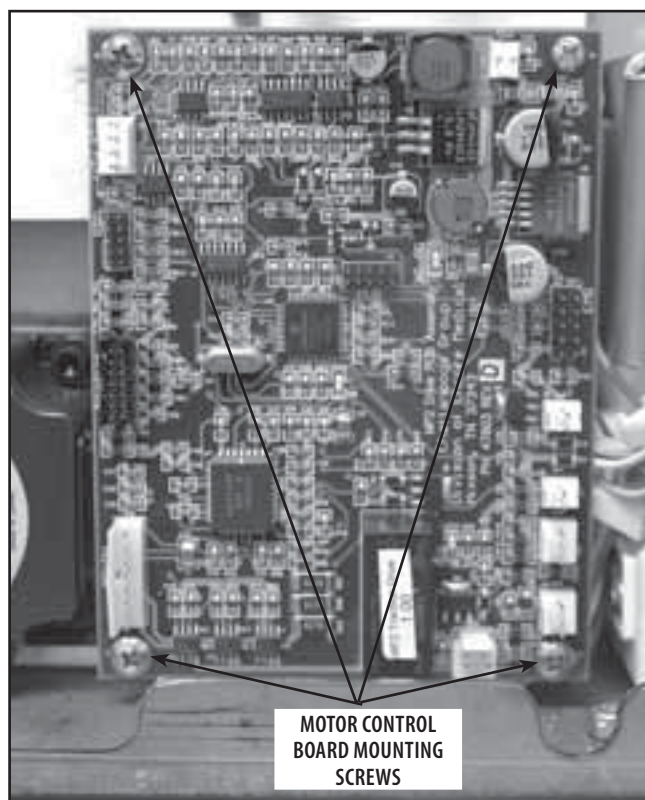

FIGURE 6.14
3. Using the #2 Phillips Screwdriver, remove the four Motor Control Board Mounting Screws. See Figure 6.14.